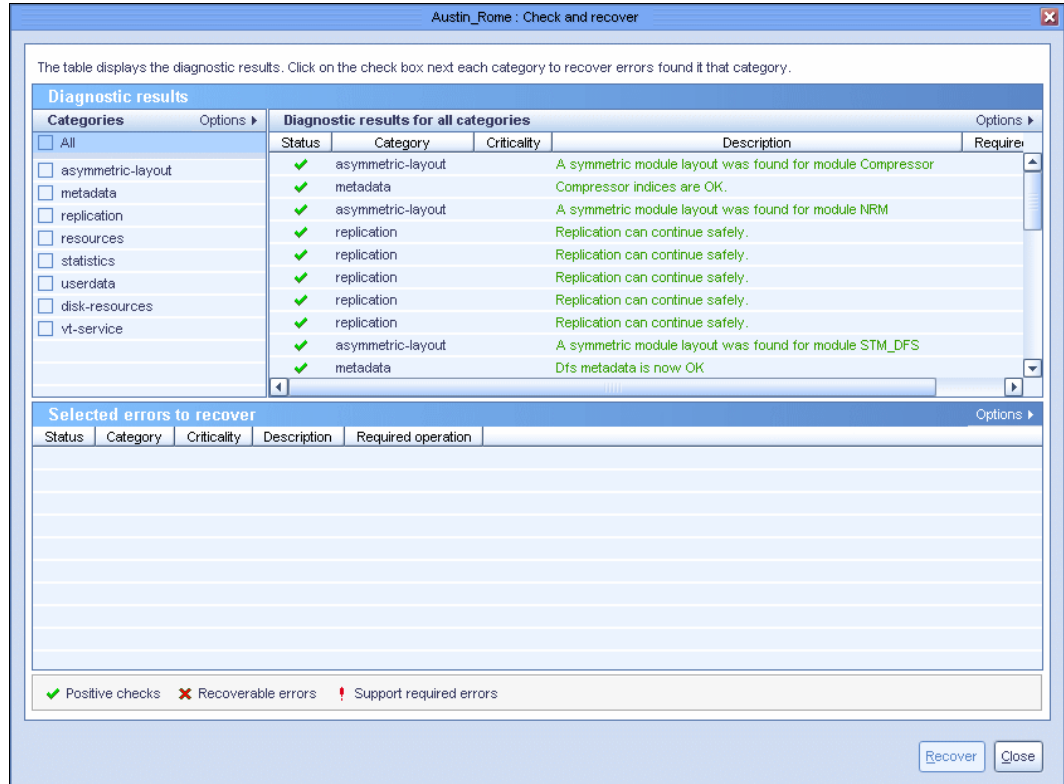

Figure 10-124 Check and recover result window
3. The Check and recover window opens with the results of the scan (Figure 10-124).